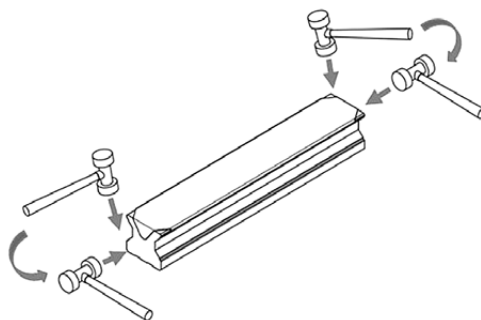

Fig. 4.22 Bending the cover strip ends
- ▶ Finally, carefully bend the two ends of the cover strip with a rubber mallet as shown in Fig. 4.22.